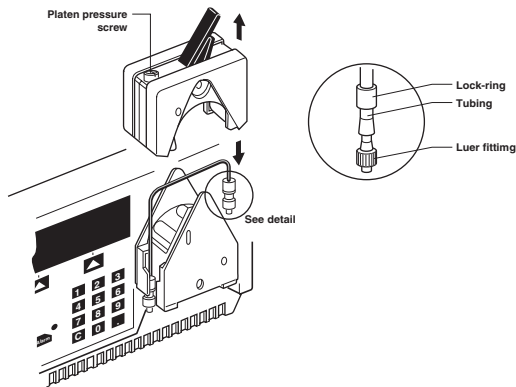

Fig. 1. Biologic LP setup.
1. Install 1.6 mm ID tubing in the pumphead. Adjust platen pressure screw (on pumphead). —Using a screwdriver or coin, turn the screw counterclockwise as far as it will go, then turn clockwise three full turns. Assemble with fittings and lock rings as shown in Figure 1.